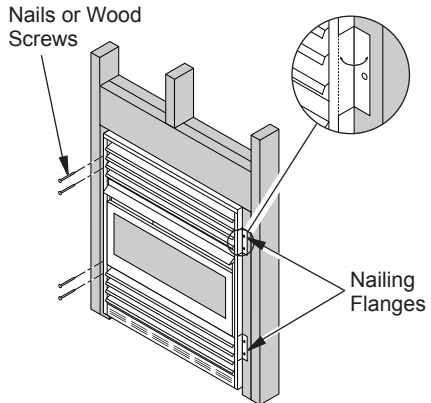

Figure 10 - Attaching Fireplace to Wall Studs
- Bend four nailing flanges on outer casing with pliers (see Figure 10).